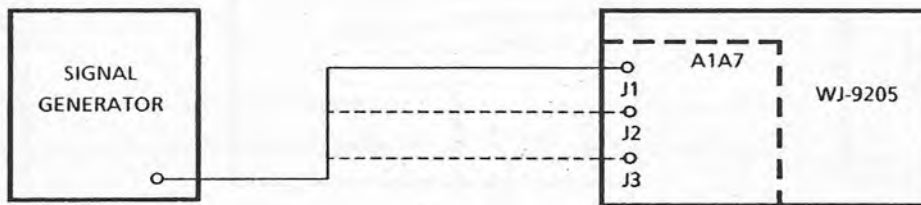

Figure 4-2. Input/Output Performance Test, Equipment Connections
- 1. Connect the test equipment as illustrated in **Figure 4-2**. Set the signal generator for a 21.4 MHz, -90 dBm, CW output.
1. Connect the equipment as illustrated by the solid line in Figure 4-2. Set the signal generator for a 21.4 MHz, -40 dBm, CW output signal.
1. Connect the test equipment as illustrated in Figure 4-2. Set the signal generator for 21.4 MHz, CW, with an output level to produce a signal on the CRT at the top graduation with 0 dB attenuation.